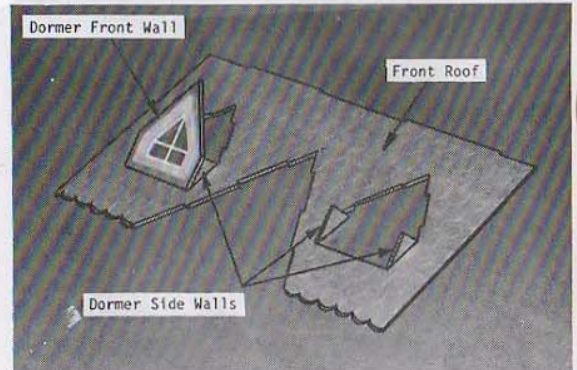

Figure 15
16. Locate **Front Roof, Dormer Side Walls** (AH-7) and relocate Dormer Front Walls. Assemble as in Figure 15.